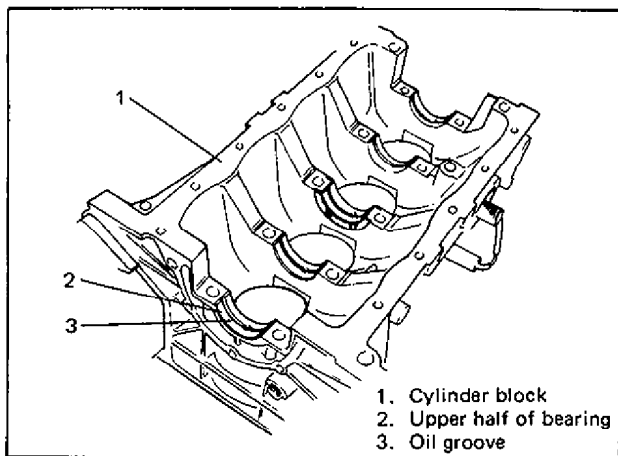

Fig. 6A-138 Upper Half of Bearing Installation
- On each main bearing cap, arrow mark and number are embossed as shown in Fig. 6A-140. When installing each bearing cap to cylinder block, point arrow mark toward crankshaft pulley side and install each cap from that side to flywheel side in ascending order of numbers "1", "2", "3", "4" and "5". Tighten cap bolts to specified torque.